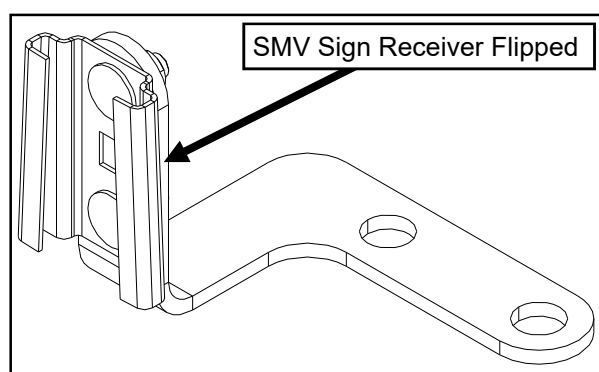

Fig. 18.2 (SMV Sign Bracket - Flipped)
18.2 Remove the SMV sign receiver from the black bracket and flip it over so the wide end of the taper is now facing down. See Fig. 18.2.